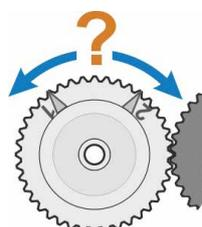

Fig. 7: Monitoring direction of rotation
- Signaling gear only: heed direction of rotation of the central wheel (fig. 7), this is important for step 10.